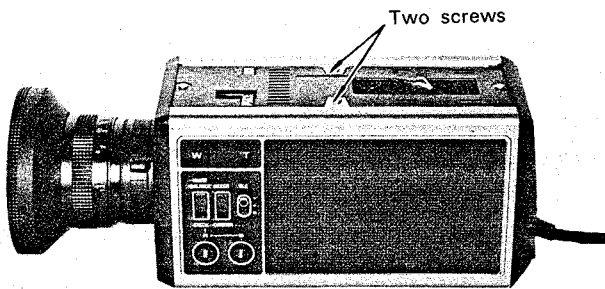

Fig. 2-1-5
- Remove the two screws on the top inner plate which secure the both side covers. (Fig. 2-1-5)